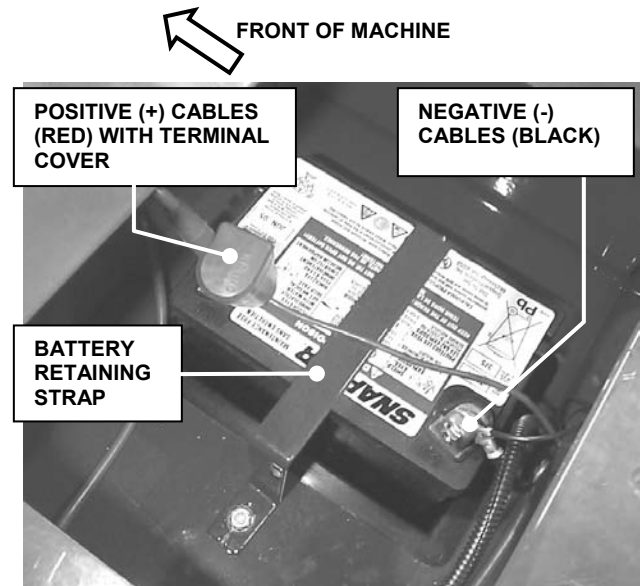

FIGURE 4.4
2. Observe and note cable positions on battery. See Figure 4.4.
4. Remove battery retaining strap hardware and carefully lift battery out of battery tray. See Figure 4.4.
Cables must be connected to battery terminals in the proper position as shown in Figure 4.4. DO NOT attempt to charge battery while installed on the Machine. DO NOT use "BOOST" chargers on the battery.
IMPORTANT! The orientation of the battery and the routing of the battery cables is very important. Install battery carefully as shown in Figure 4.4. Always install positive (red) cables using the terminal cover. DO NOT operate machine until the battery retaining rod has been installed and the battery retained securely.
1. Carefully place battery into battery tray, and replace battery retaining strap (see Figure 4.4). Tighten strap hardware securely.
2. Connect positive (+) cables (red) first, from wiring harness to the positive terminal (+) on battery using bolt and nut. Install terminal cover. See Figure 4.4
3. Connect negative (-) cables (black) last, to negative terminal (-) on battery using bolt and nut. Apply a small amount of grease over terminals to prevent corrosion. See Figure 4.4.